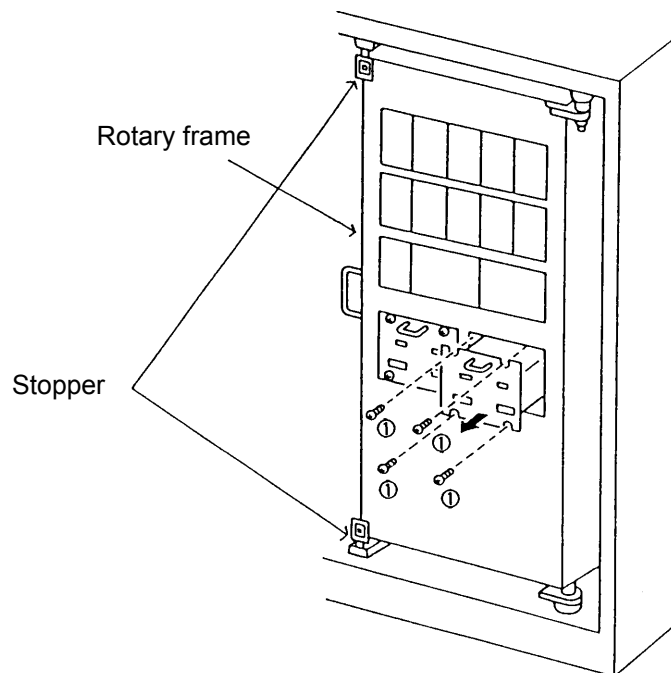

Figure 3-1 Removing the Fan Block for the Unit Power Supply
- (1) Remove all cables connecting to the fan block.
- (2) Unfasten four screws on the front of the fan block (① in Figure 3-1).
- (3) Pull the fan block toward you to remove it.